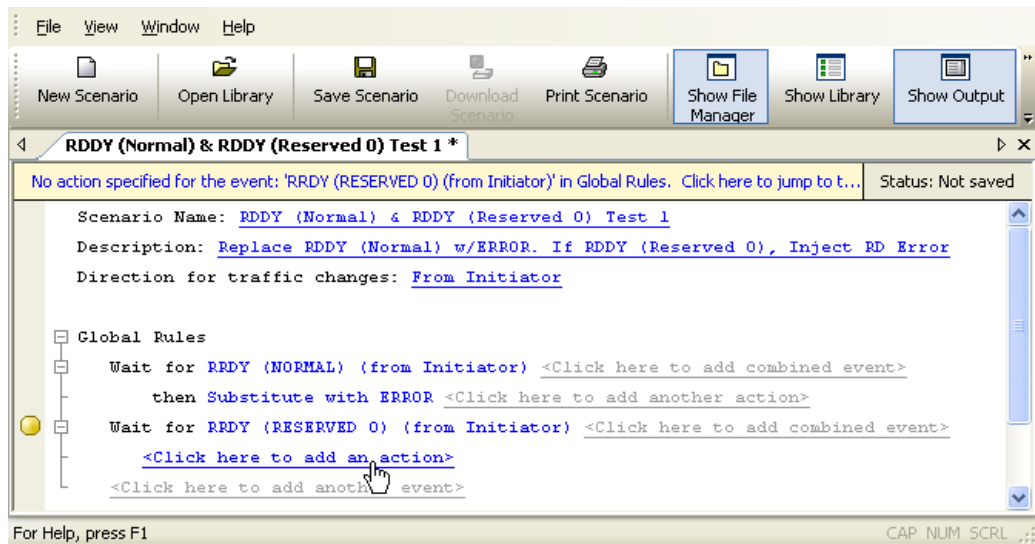

Figure 61 Example 4: Entering Second Action
- Step 6** In the Global Rules area, click on the prompt to **add an action** to be triggered by the RRDY (Reserved 0) (Figure 61).